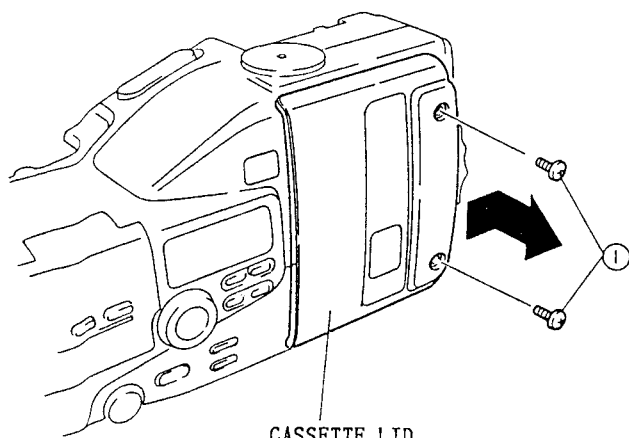

Fig. 2-5
1. Remove two (2) screws holding the cassette lid and remove the cassette lid in the direction of the arrow. (See Fig. 2-5)
4. Remove the cassette lid. (See Fig. 2-5)